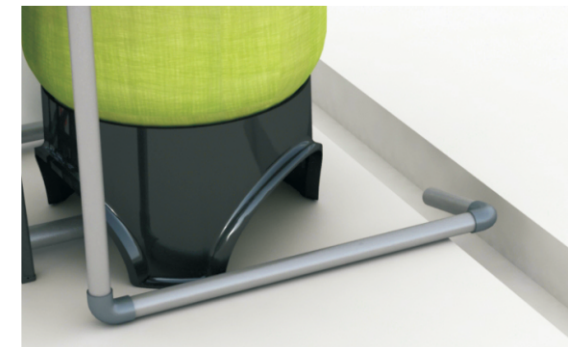

Figure 1-5
- e. Glue DN65 (Outer diameter is $\phi 75$) UPVC pipeline with the drain, drain pipeline should directly connect to the sewer, the sewer and the drain pipeline should installed as Figure 1-5.